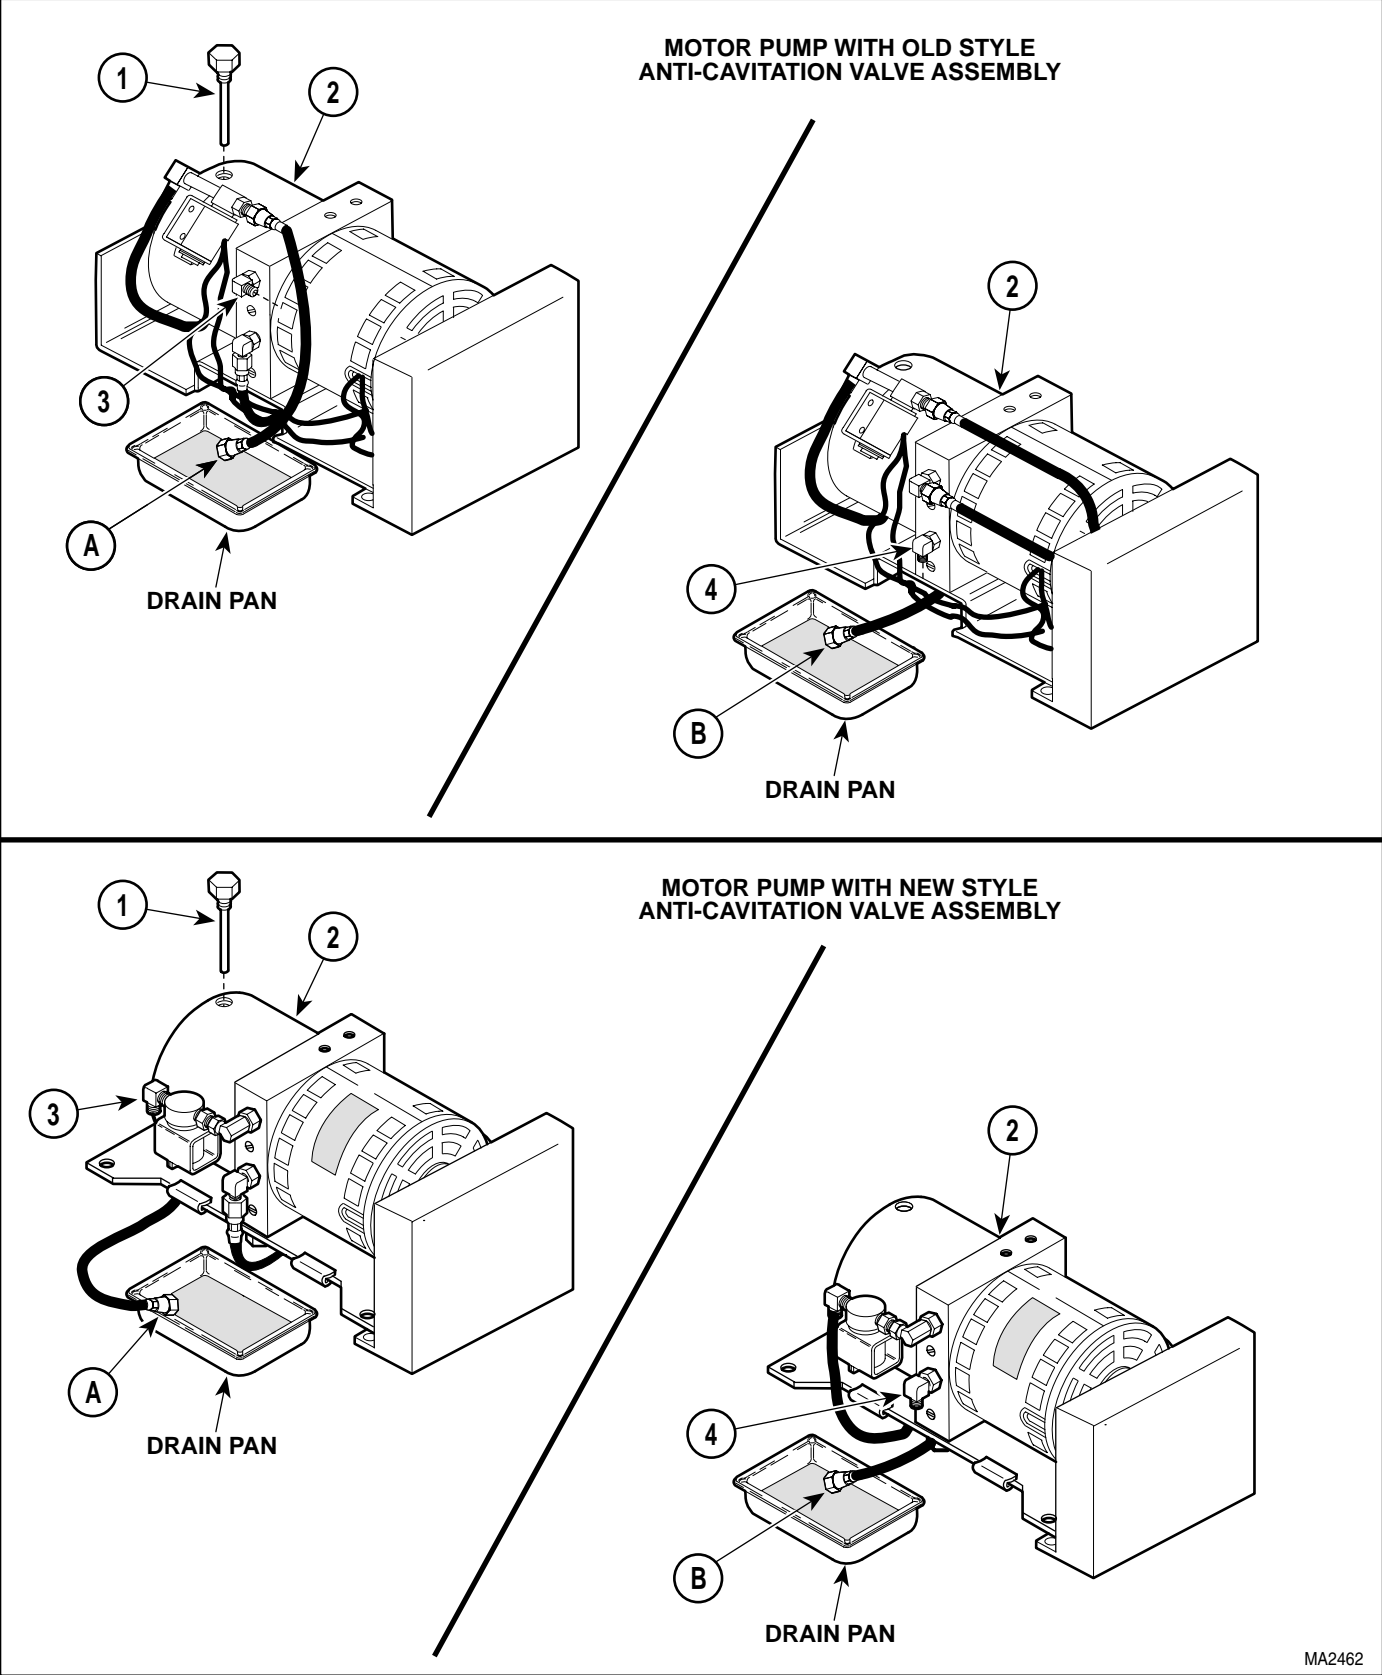

Figure 4-43. Hydraulic System Flushing Procedure
- (1) Lower TABLE DOWN, BACK DOWN, TILT DOWN, and FOOT DOWN functions all the way down.
- (2) Remove motor cover assembly (Refer to para 4.2).
- (3) Remove filler cap (1, Figure 4-43) from reservoir (2).
- (4) Get a suitable drain pan with a capacity of approximately 2 quarts (1.9 liters).
- (5) Using a syringe or suction device, remove all oil from the reservoir (2).
- (6) Refill reservoir (2) with light grade mineral oil.
- (7) Disconnect hose (A) from down functions shuttle valve (3) and place end of hose in drain pan.
- (8) Raise TABLE UP, BACK UP, TILT UP, and FOOT UP functions all the way up, while making sure to keep refilling reservoir (2) with light grade mineral oil as necessary.
- (9) Connect hose (A) to down functions shuttle valve (3).
- (10) Disconnect hose (B) from up functions shuttle valve (4) and place end of hose in drain pan.
- (11) Lower TABLE DOWN, BACK DOWN, TILT DOWN, and FOOT DOWN functions all the way down, while making sure to keep refilling reservoir (2) with light grade mineral oil as necessary.
- (12) Connect hose (B) to up functions shuttle valve (4).
- (13) Repeat steps 7 thru 12 until oil being removed is clear and contains no dirt particles.